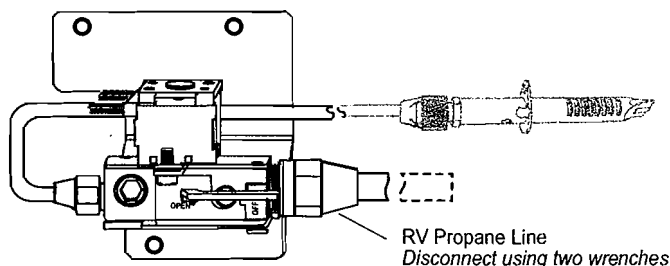

Figure 1. RV propane line connection at gas valve.
4. Disconnect the RV propane supply line from refrigerator gas valve. See Figure 1.